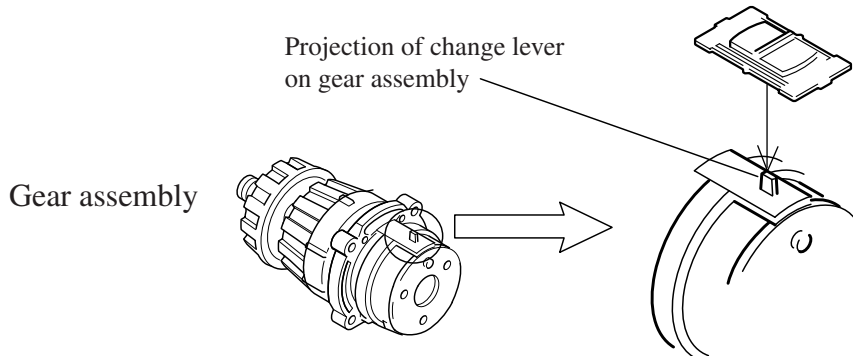

Fig. 5
2) Being careful that compression spring 4 may not comes out , install speed change lever assembly on the projection of change lever as shown in Fig. 5.